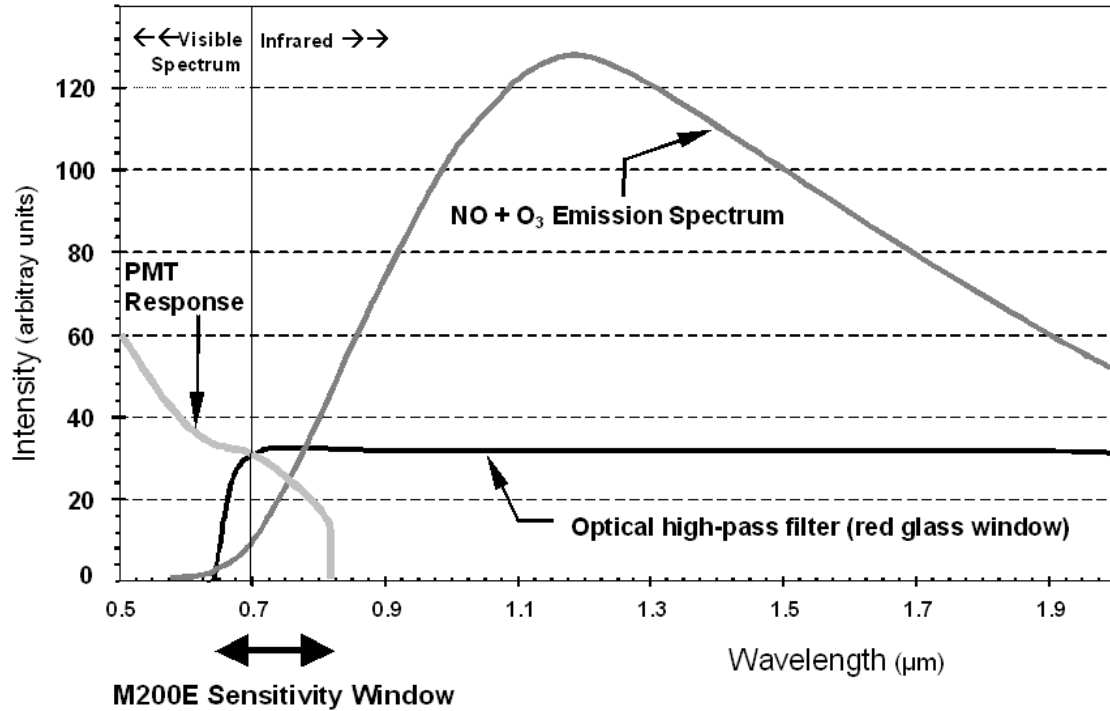
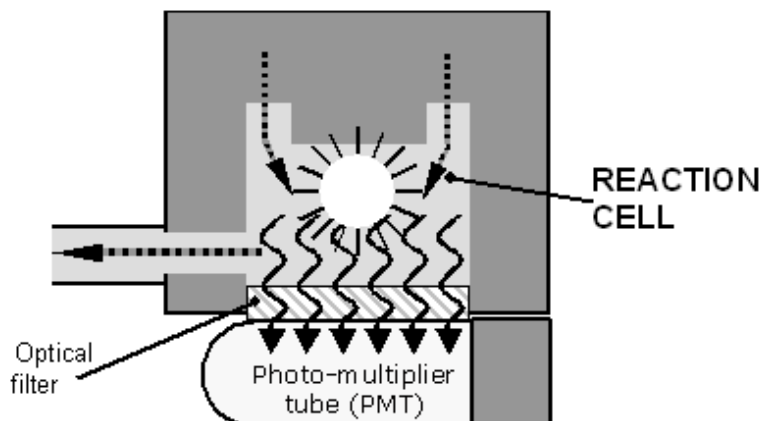

Figure 10-1: TML41 Sensitivity Spectrum
Figure 10-3: Reaction Cell with PMT Tube
Thermodynamics requires that systems seek the lowest stable energy state, hence, the NO₂ molecule quickly returns to its ground state in a subsequent step, releasing the excess energy in form of a quantum of light ($h\nu$) with wavelengths between 600 and 3000 nm, with a peak at about 1200 nm (Equation 10-2, Figure 10-1).
All things being constant, the relationship between the amount of NO present in the reaction cell and the amount of light emitted from the reaction is very linear. More NO produces more light, which can be measured with a light-sensitive sensor in the near-infrared spectrum (Figure 10-1). In order to maximize the yield of reaction (1), the TML41 supplies the reaction cell with a large, constant excess of ozone (about 3000-5000 ppm) from the internal ozone generator.
Another critical component in the method by which your TML41 detects chemiluminescence is the optical filter that lies between the reaction cell and the PMT (Figure 10-3). This filter is a high pass filter that is only transparent to wavelengths of light above 645 nm. In conjunction with the response characteristics of the PMT, this filter creates a very narrow window of wavelengths of light to which the TML41 will respond (Figure 10-1).
The TML41 sensitivity curve includes a small portion of the visible light spectrum (Figure 10-1), hence, it is important to make sure than the reaction cell is completely sealed with respect to light. To ensure this, all pneumatic tubing leading into the reaction cell is opaque (vacuum exit tubing). Light penetration is also prevented by stainless steel filters and orifices (gas entries).